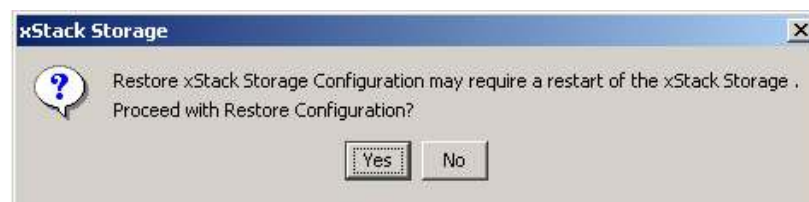

Figure 5-51. Configuration Restore Message
2. Locate the configuration file whose settings you want to load, then select the file and click the **Open** button. The message in Figure 5-51 appears.